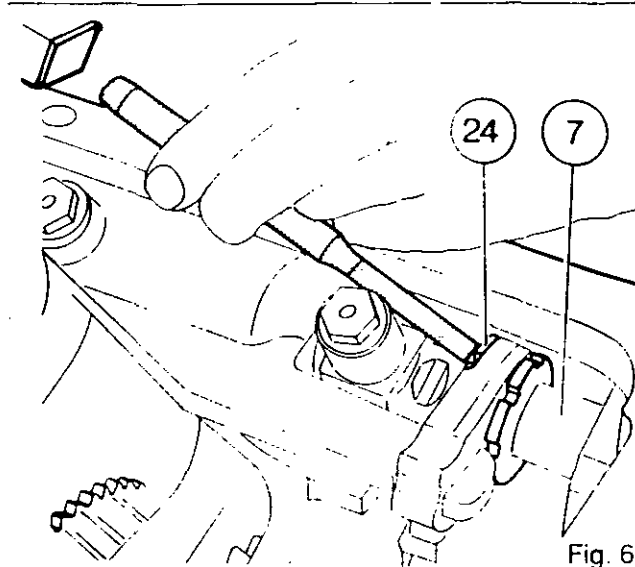

Fig. 6
7. Free off cone (24) on guide rail (7) with a bronze drift (Fig.6).
8. Unscrew set screw (8).
9. Remove : bearing (15), guide rail (7) from the rear, forks (5) and (6), and locking assembly (25).
10. Remove : lock ring (21), locking gate (22), bearing (23), and cone (24).